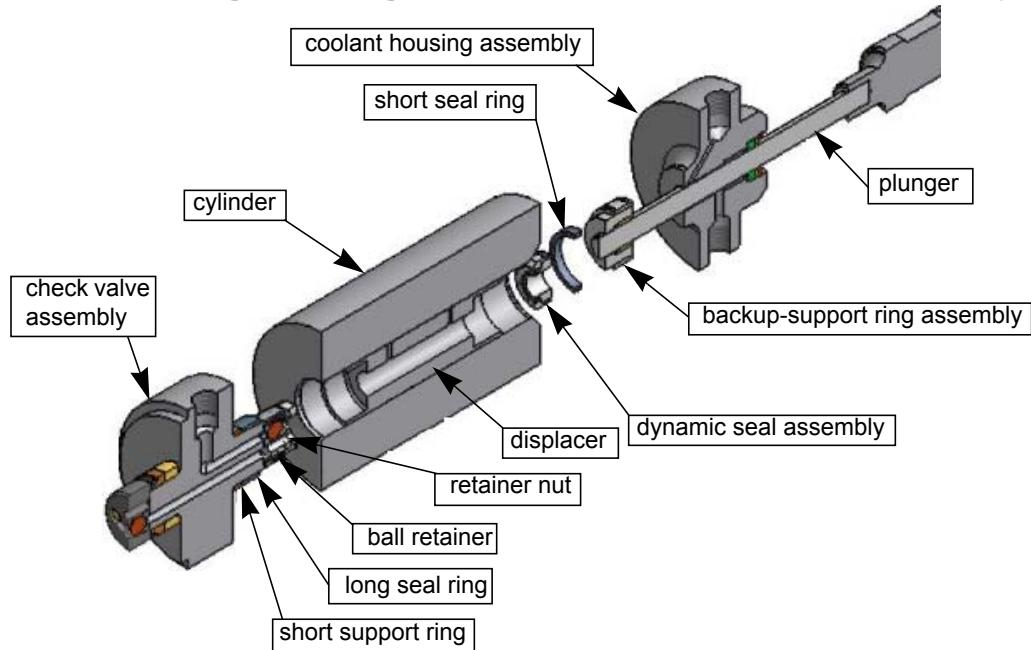
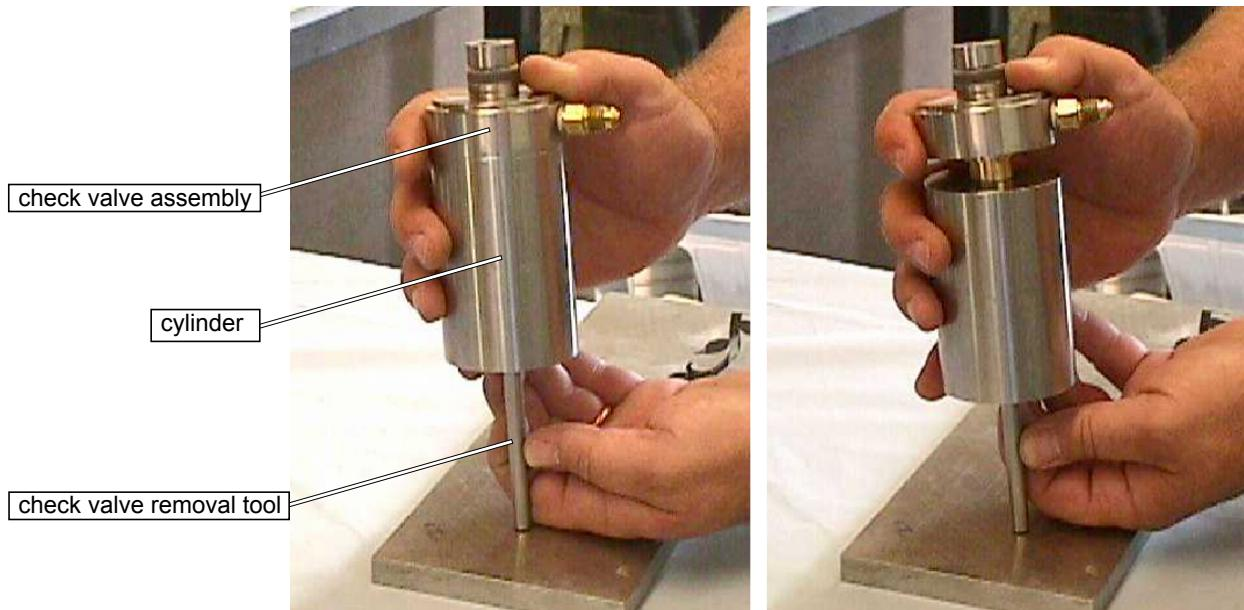

Figure 6-6
Figure 6-8
2. Insert the **check valve removal tool** (Figure 6-8) through the **backup-support ring assembly** (Figure 6-6) of the first cylinder until it contacts the check valve retainer nut inside the cylinder: